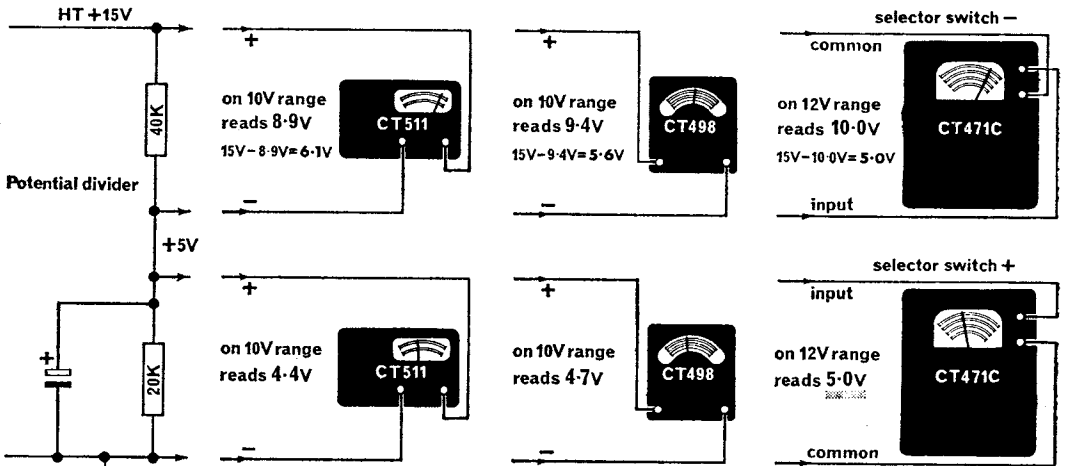

Fig. 8. Loading effects (para 13)
13. **Circuit loading effects** (Fig 8). The loading effect obtained by connecting meters in parallel with a circuit resistance is shown in figure 8. To obtain a reasonable practical reading the meter